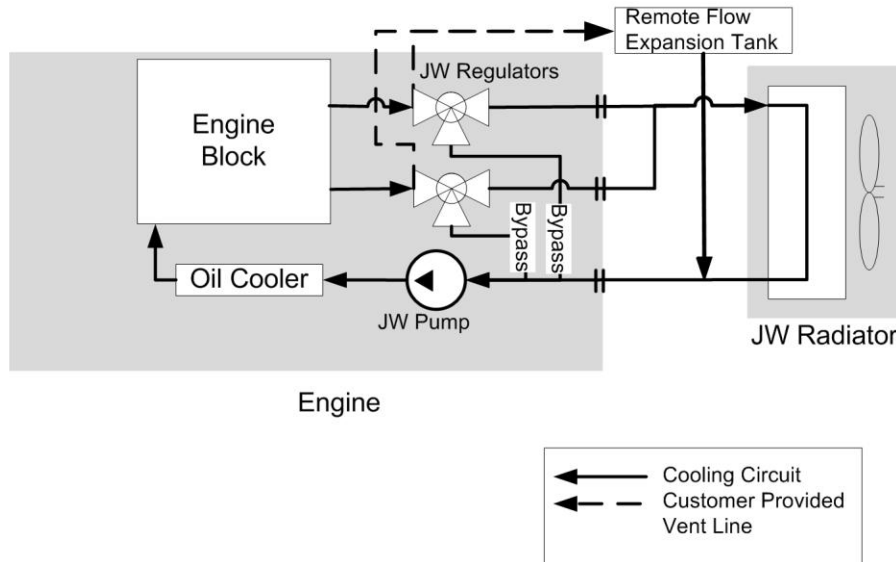

Figure 38: G3400 NA V-block cooling system schematic.
- G3400 NA V-block, (Figure 38 on Page 53).